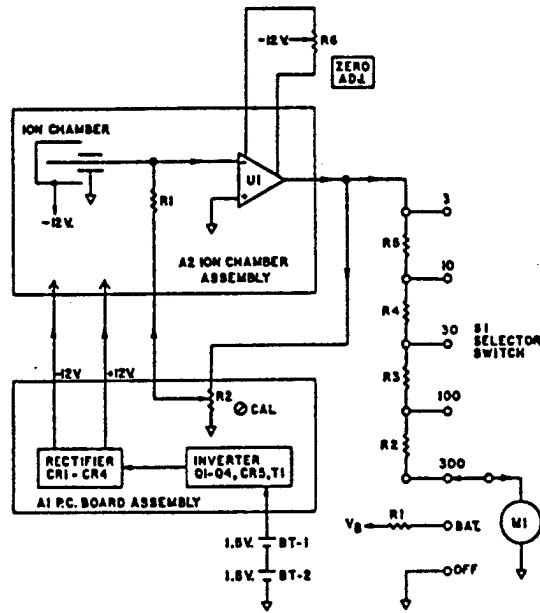

Figure 4-2. SM-400 Overall Functional Block Diagram
4-2. FUNCTIONAL DESCRIPTION. Refer to Figure 4-2. which shows the overall functional block diagram. Radiation entering the Ion Chamber will cause collection current to flow that is proportional to the intensity of radiation. The collection current is amplified by the electrometer amplifier circuit so that it is of sufficient amplitude to provide current to the meter, permitting the meter to be calibrated to indicate the amount of radiation that is being detected. The necessary voltages to operate the Ion Chamber and the Electrometer are obtained from the output of a regulated DC/DC converter that receives its input power from two BA-30, 1.5 V batteries that are connected in series. Theory of operation of the individual functional sections is contained in Paragraph 5-3.
c. Listing Probable Faulty Function. The next step in logical troubleshooting is to formulate a number of "logical choices" as to the cause and likely location (functional section) of the trouble. The logical choices are mental decisions which are based on knowledge of the equipment operation, a full identification of the trouble symptom and information contained in this manual. The overall functional description and its associated block diagram should be referred to when selecting possible faulty functional sections. See Figure 4-2., Paragraph 4-2., and Paragraph 5-3.